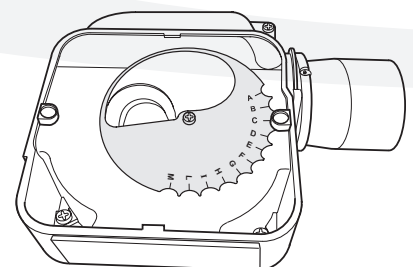

Figure 10-2:
To adjust the 15/21 air adjuster disc when downrating - See Figure 10-2
4. The secondary air shutter disc is factory set in position 'C' - i.e. with the cut-out marked C located against the die-cast boss on the fan housing - suitable for outputs of 18.3 and 21 kW only. See Figure 10-2.